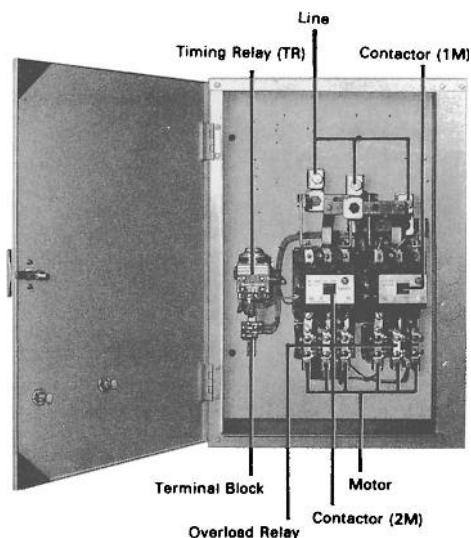
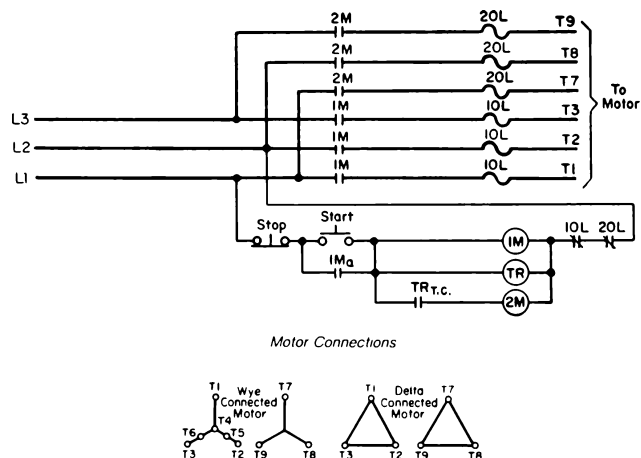

Fig. 12-22 Part-winding type of magnetic starter. (Westinghouse)
Fig. 12-23 Typical wiring diagram for part-winding type of starter. (Westinghouse)
The part-winding type of starter is shown in Fig. 12-22. The parts are located for ease in understanding the operation. By taking a look at the schematic in Fig. 12-23 you can see how the starter operates. Closing the *start* button or other pilot device energizes the start contactor (1M) that seals in through its interlock (1M_a) and energizes the timer (TR). The (1M) contacts connect the first half-winding of the motor across the line. After a preset time interval, timer TRTC contacts close the energizing contactor (2M). The (2M) contacts connect the second half-winding of the motor across-the-line.